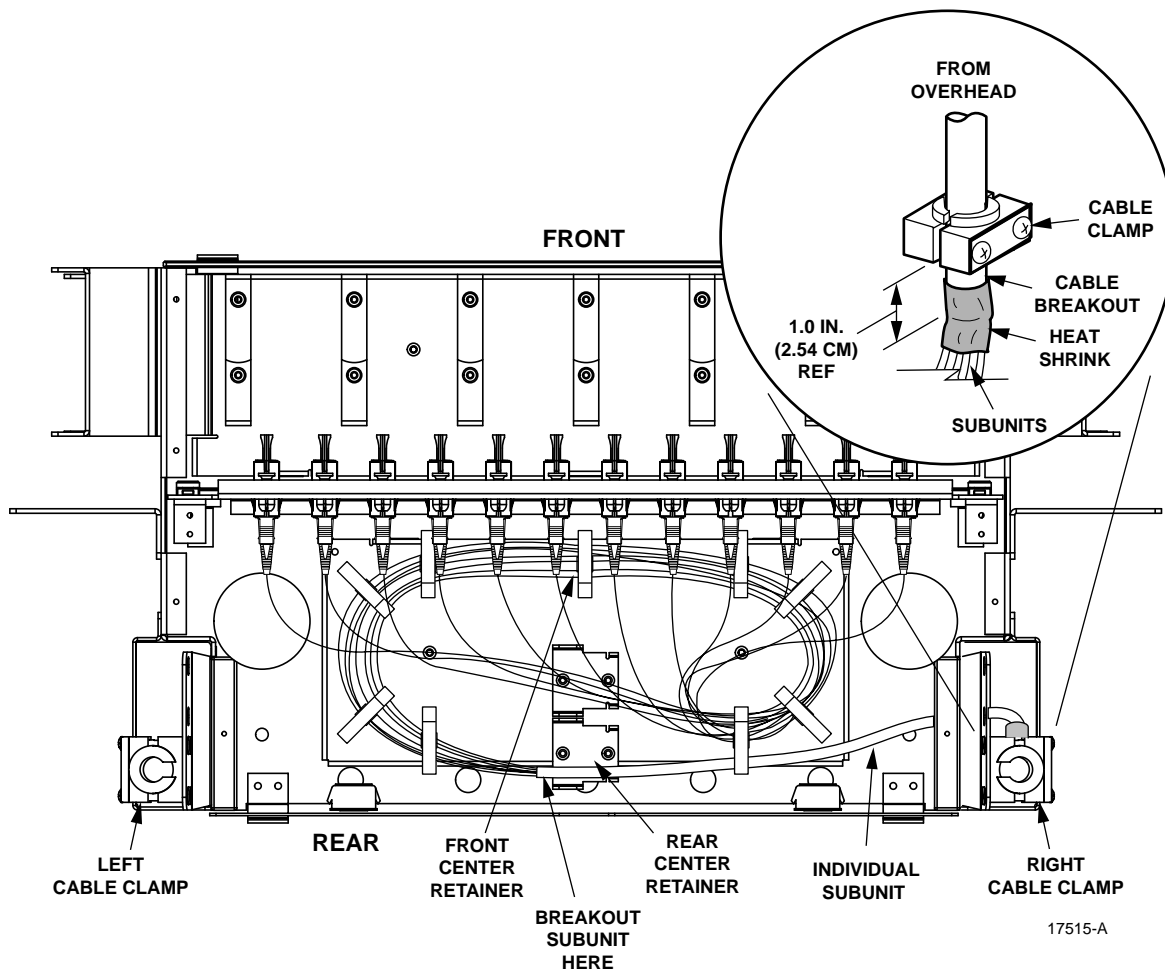

Figure 17. Stranded Cable Routing – Top View
If a stranded cable is being installed, route the cable fibers into the rear of the LSX connector module using the following procedure (see Figure 17).
3. Route the fibers around the retainers and then fan them out to the adapter ports, as shown in Figure 17.